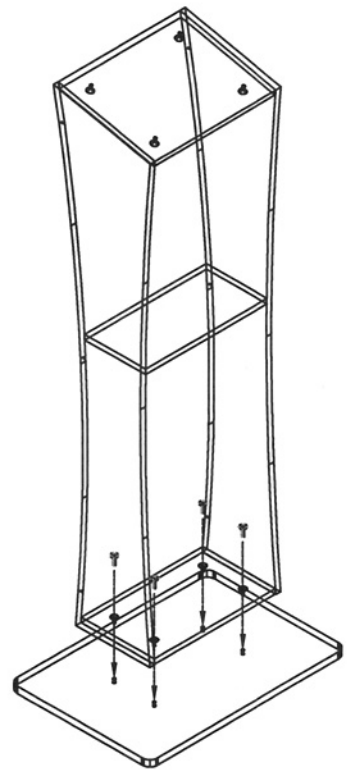

Figure 2
3. Using the provided Screwdriver, attach the Body to the Base with (4) Flat Head Screws as illustrated in Figure 2.